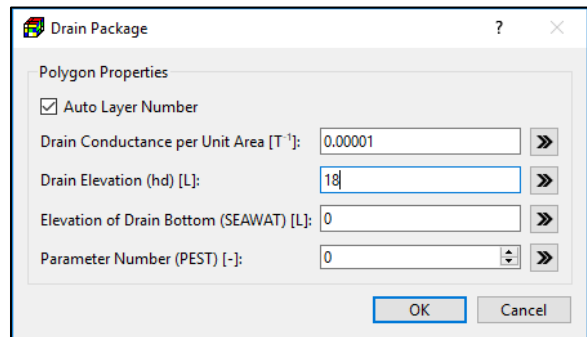

Figure 26. The Drain Package dialog box
- Most polygon data-entry dialog boxes include **»** buttons next to data entry fields. Figure 26, for example, shows the Drain Package dialog box with these buttons. Clicking the button next to a parameter replaces the data of cells located within the polygon with that parameter value.